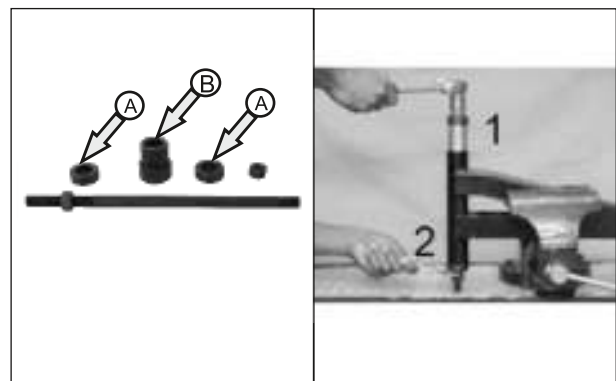

Fig. 1.22
- Insert the plate A, silent block (1 no) in the bolt and insert it through the trailing arm end 1.Place the plate B from end 2 and tighten the nut. Insert the plate A in the bolt and insert it through the trailing arm from end 1 . Place the silent block ( 1 no ),plate A from end 2 and tighten the nut.(Fig. 1.22)